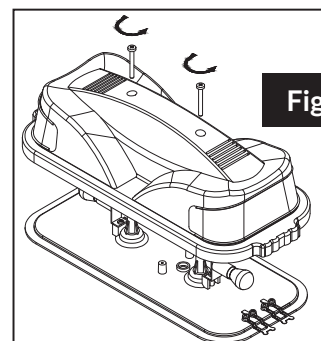

Fig. 23
1. Remove the lid from the bowl. (Fig. 23)
2. Unscrew the (2) top screws securing the top to the lid base.
4. Secure the top to the base with the (2) top screws.